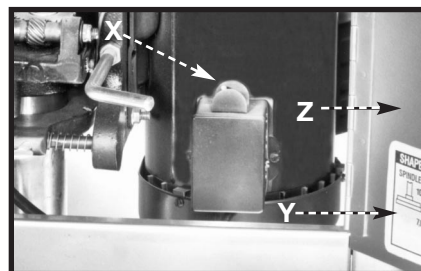

Fig. 19
4. **IMPORTANT:** Always place the "keyed" washer (D) Fig. 13, on the spindle before screwing on the spindle nut (E) Fig. 14. The "keyed" washer (D) Fig.19 prevents the spindle nut (E) Fig. 14 from loosening when the spindle turns counterclockwise.
The machine is supplied with a 2-step motor pulley and a 2-step spindle pulley that provide spindle speeds of 7,000 and 10,000 RPM. With the belt on the largest step of the motor pulley and the smallest step of the spindle pulley, the spindle speed will be 10,000 RPM. With the belt on the smallest step of the motor pulley and the largest step of the spindle pulley, the spindle speed will be 7,000 RPM. A chart (Y) Fig. 19 that illustrates the correct belt placement for 7,000 or 10,000 RPM is located on the inside panel of the motor access door.
1. Open motor access door (Z) Fig. 19.
The motor is equipped with a reversing switch (X) Fig. 19, located on the motor junction box.